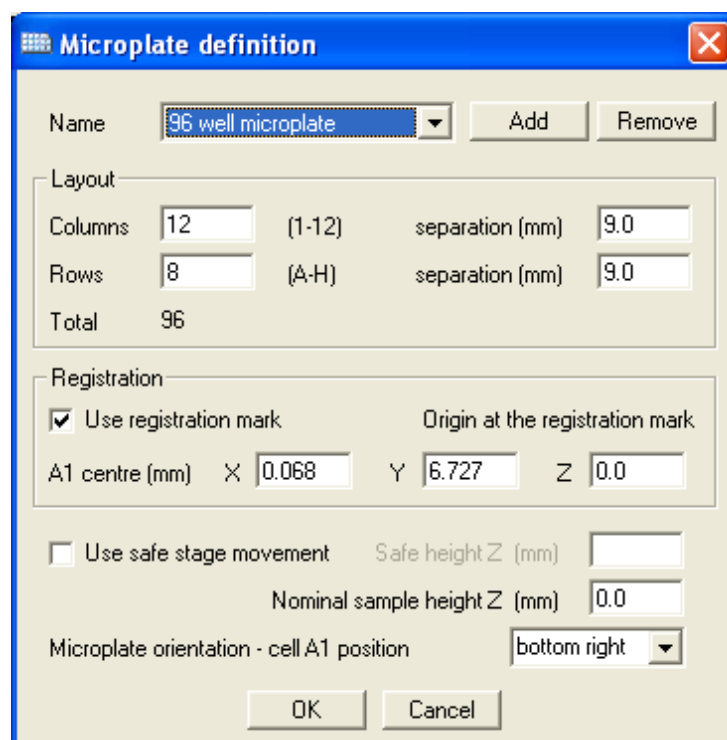

Figure 5 Registration mark settings
- Go back to Micro-plate *definition*, and select *Configure*. Check the *use registration mark* box, and enter the values of x and y obtained in '6' (Figure 5).